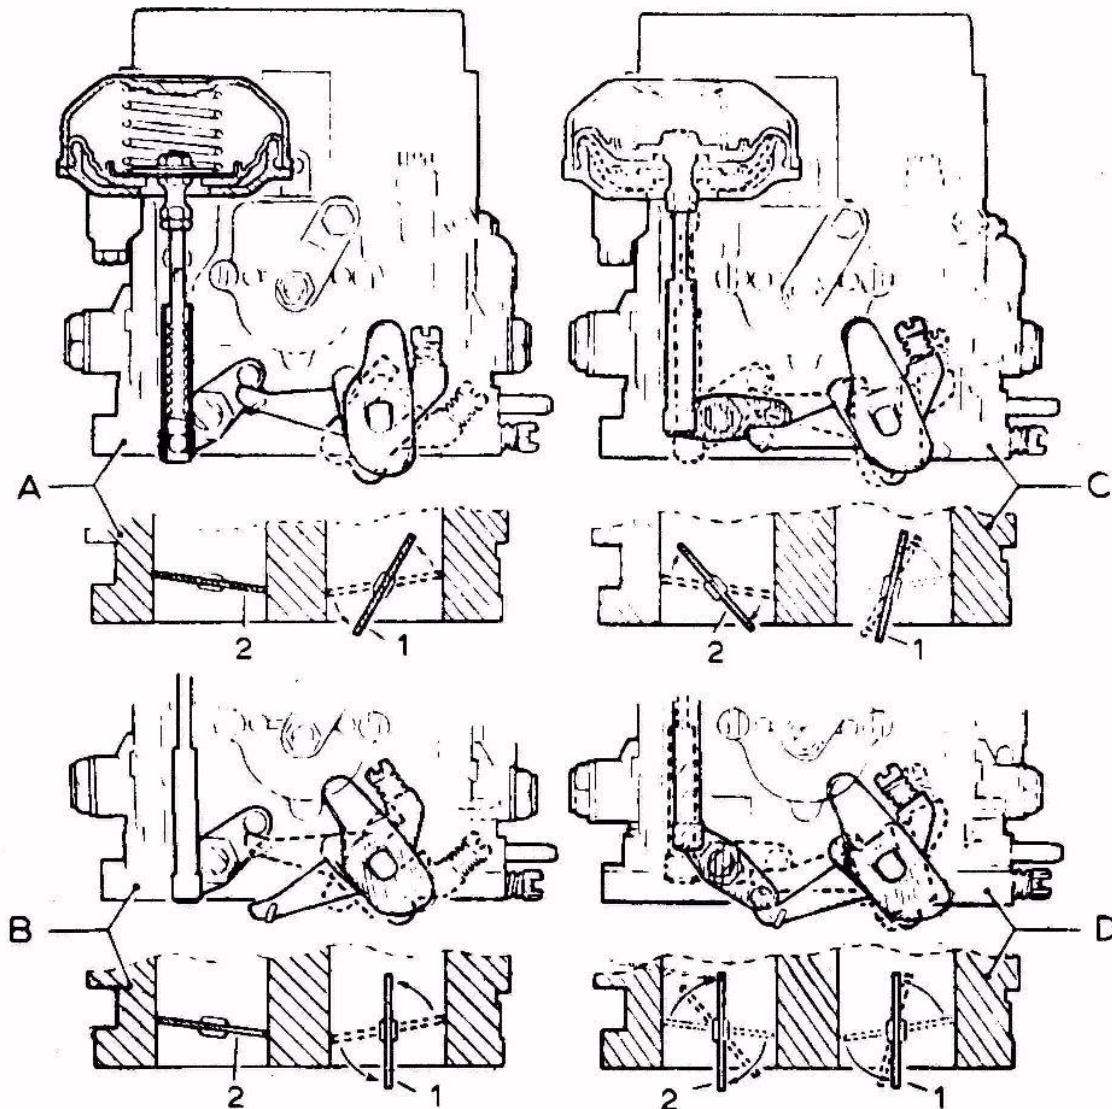

Fig. 7 - Primary and Secondary Throttle Movements.
These actions are shown in Fig.7.
**Key to Fig.7**